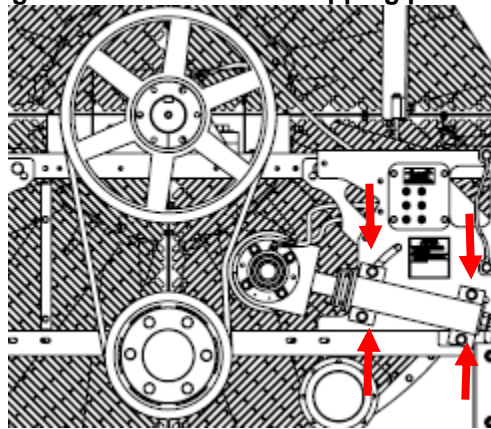

Figure 35: Tensioner in installed position
1. If tensioner is in the installed position, omit this step. Refer to Fig. 35 below.